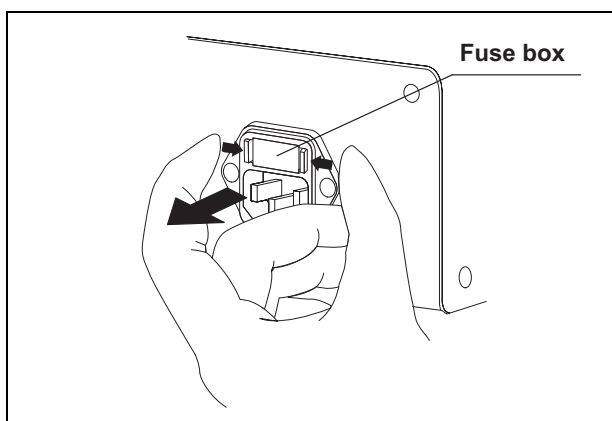

Figure 4.1
4. Remove the fuse box from the OTV-S7V by squeezing the tabs on the sides of the fuse box and pulling it straight out (see Figure 4.1).